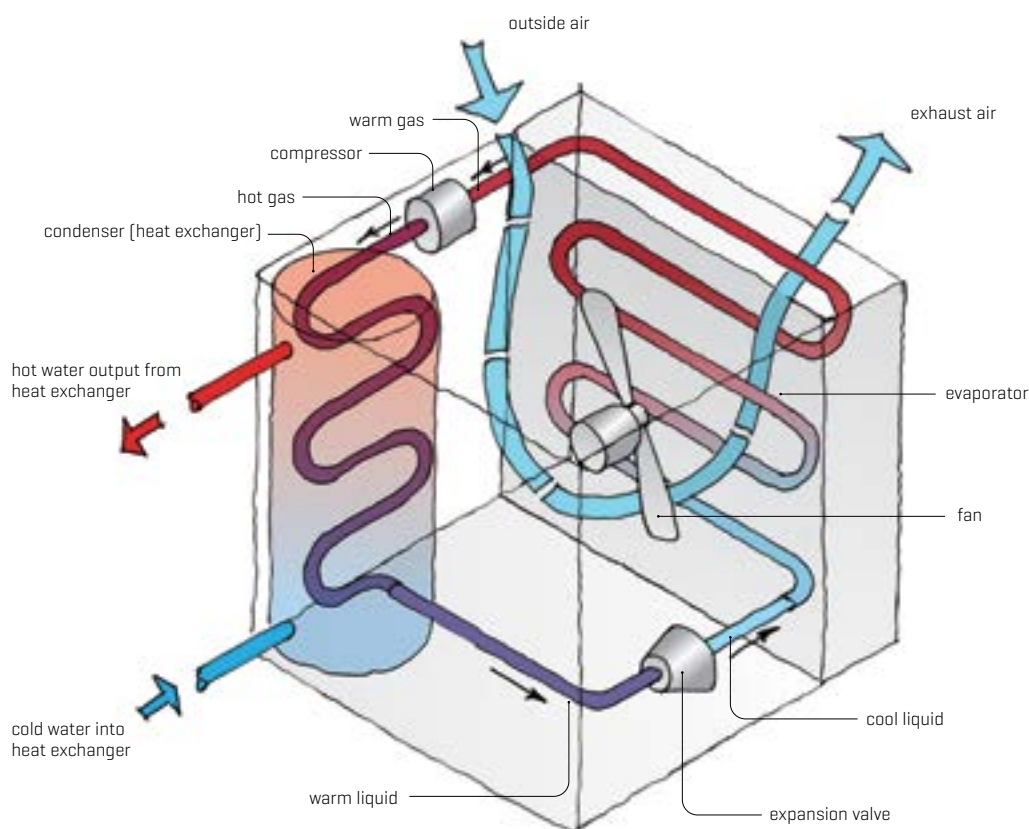

Figure 3. The water heating cycle of an air-to-water heat pump.
**2.2.1** Heat pump water heaters transfer heat energy from outdoor air [or in some cases the ground] to the water in a storage cylinder. Figure 3 shows one configuration of how the heat transfer is done with air-to-water heat pumps. Outdoor air passes over an evaporator [heat exchanger], transferring heat to a liquid refrigerant. This vaporises the refrigerant, which then enters the compressor. The compressor increases the refrigerant pressure [and temperature] and circulates it around the condenser [heat exchanger] where the refrigerant cools as it heats the water. The condensed liquid refrigerant then passes
- for a horizontal hot water distribution pipe, the first 2 m [see Figure 3 in the standard]